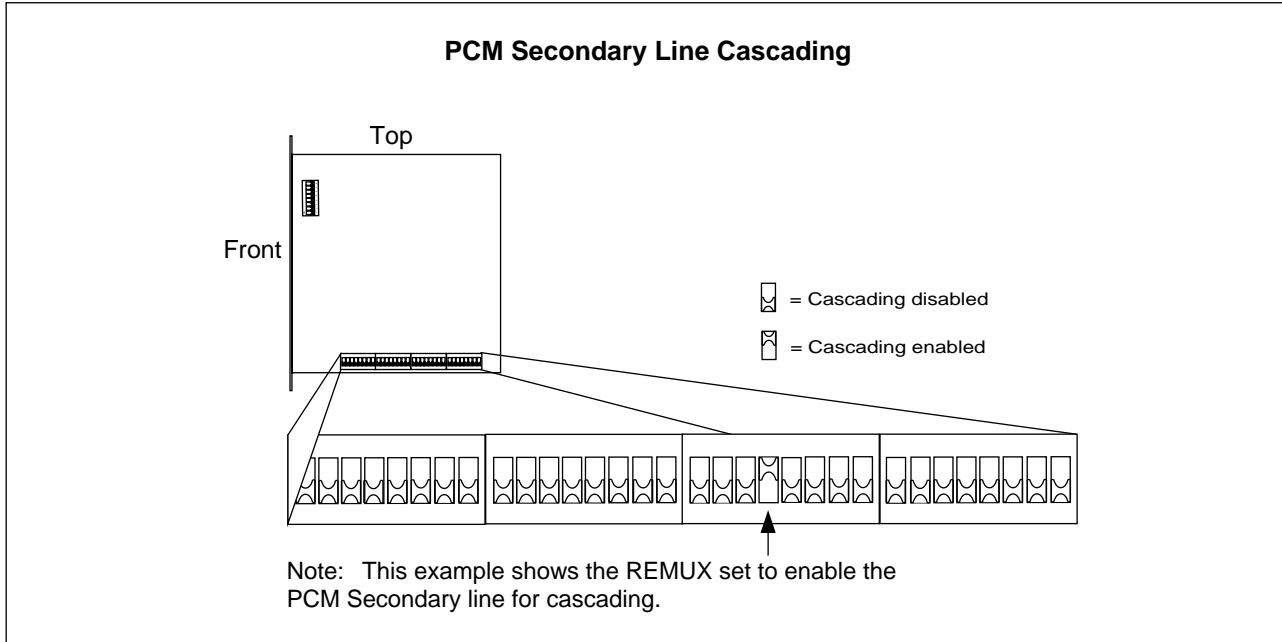

Figure 4-28. Enabling/Disabling the PCM Secondary Line for Cascading
10. Set the switch to enable or disable the PCM secondary line for cascading, as shown in Figure 4-28 on page 4-46 in accordance with the *Configuration Data* in the *Site Installation Documentation*.